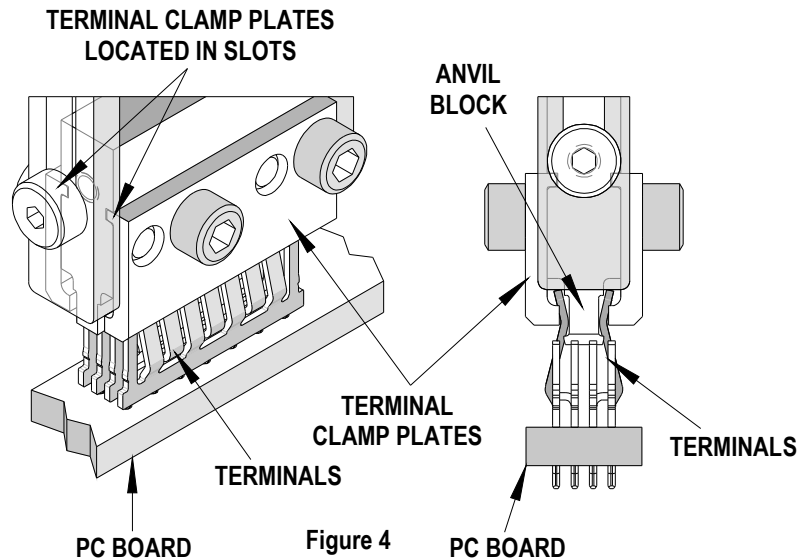

Figure 4
4. Re-tighten the (2) Terminal Clamp Plates with (2) #6-32 SHCS per side. The Terminal Clamp Plates fit into the locating slots on the Anvil Block. Tighten the (4) #6-32 SHCS so that the Terminal Clamp Plates fit snugly against terminals. Do not over tighten. See Figure 4.